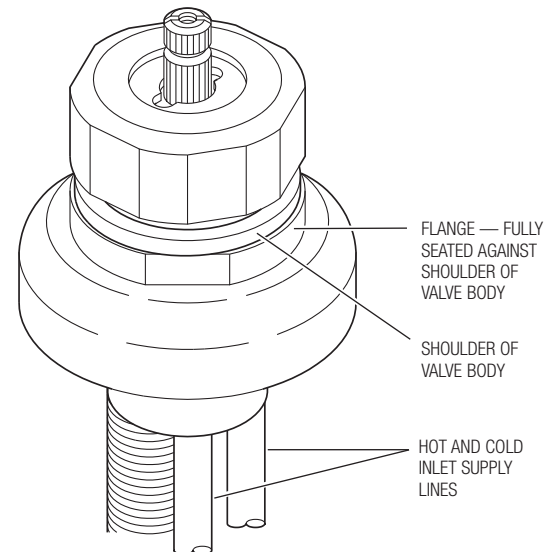

Figure 2
- A** Slide Flange over Hot and Cold Inlet Supply Lines (see Figure 2) of the Optimix Valve. Thread Flange onto Optimix Valve until fully seated against the Valve Shoulder.